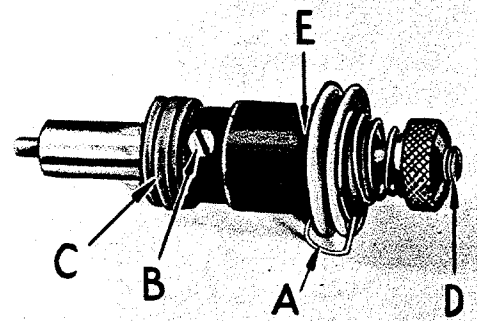
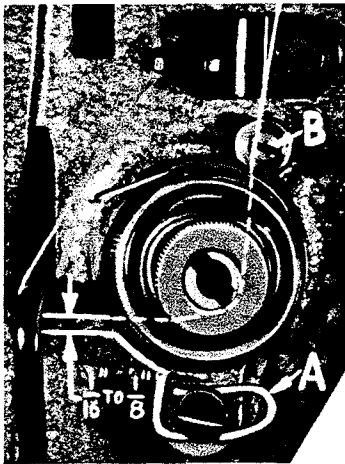
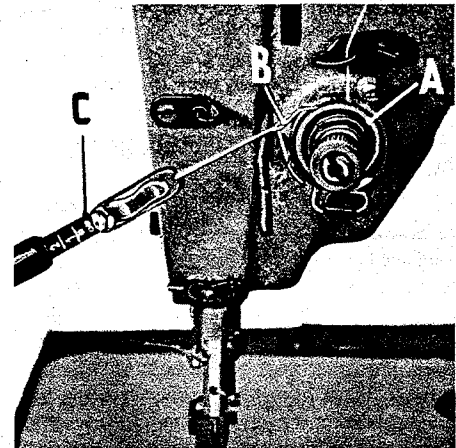

Fig. 17
Fig. 18
Fig. 18A
Test check spring tension (A, Fig. 17). There should be enough tension to assure a good returning snap when spring is depressed and released. Should it require adjusting, loosen set screw in the head located under arm and to the right of tension assembly, and remove tension assembly. Partially loosen tension post set screw (B) in tension post socket (C). Turn the tension post (D) counterclockwise until the check spring moves away from the upper stop (E) and has no tension on it. Turn the tension post (D) in a clockwise direction until the spring again touches the upper stop (E). Then, proceed further in the same direction until the desired tension is obtained. When correctly set, the tension post set screw (B) should be drawn up snugly, yet not forcefully. Further adjustment of the check spring tension can be made by inserting a screwdriver into the slotted end of the tension post (D) and turning in the required direction.
The in and out position of the tension assembly is correct when the tension discs are in line with the check spring eyelet (A, Fig. 18). Set the stop screw (B, Fig. 18) so that when the flange of the tension assembly rests against it, this position is maintained. Tighten the tension assembly set screw.
Check the adjustment of tension assembly (A, Fig. 18A). Check spring tension. There should be enough tension to
insure a good returning snap when spring (B, Fig. 18A) is depressed and released. The check spring tension is adjusted from about 1 to 1 1/4 ounces when measured with a postal scale (C, Fig. 18A). This is measured when the check spring is 1/32 to 1/16 inch from its stop. The tension post set screw should be drawn up snugly but not forcefully tightened (B, Fig. 17). The tension release pin should move freely in the tension post (D, Fig. 17). The check spring eyelet (A, Fig. 18), located just below the tension discs, should be set for correct height as follows:
With a thread running from the tension post to the thread wire in a straight line, the check spring eyelet should be set 1/16 to 1/8 inch below the thread line (Fig. 18). Be sure the eyelet is set close to the tension discs so that the check spring will pass freely over it without obstruction. After making this setting, proceed to thread machine as per threading diagram (Fig. 2).